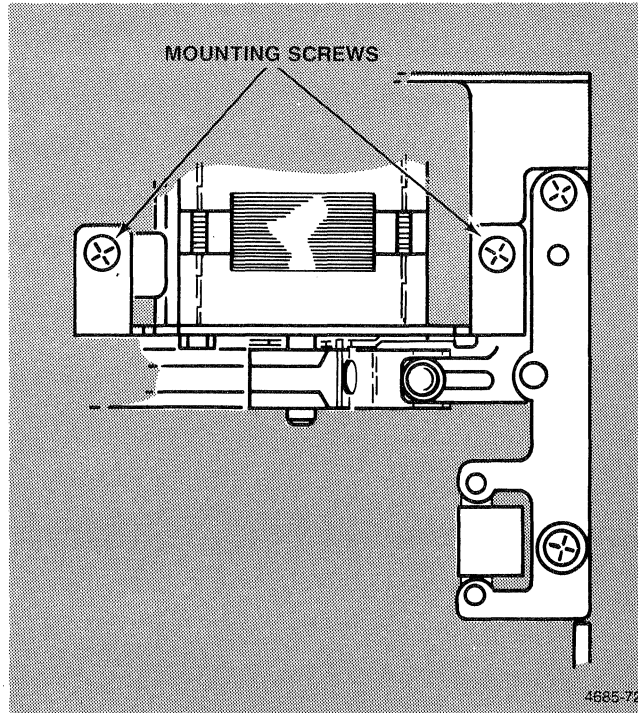

Figure 13-3. Stepper motor mounting Screws.
- a. Loosen the two mounting screws that hold the stepper motor to the base casting (Figure 13-3).